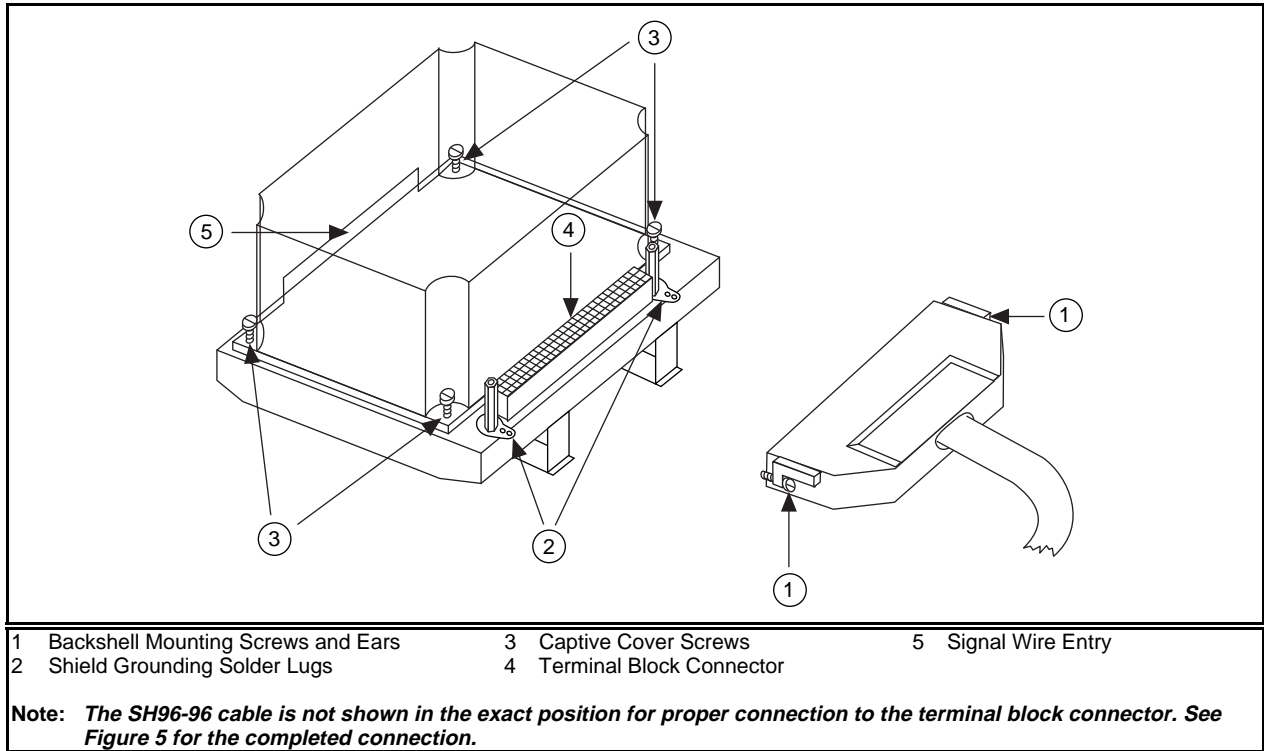

Figure 4. Connecting the SH96-96 Cable to the TBX-1303 Terminal Block
13. Connect the other end of your cable assembly to your TBX-1303 terminal block connector and secure the cable by tightening both backshell mounting screws. See Figure 4.
To connect your field signals to the TBX-1303 for use with the SCXI-1100 or SCXI-1102 modules, refer to Figures 4 and 6 as you perform the following instructions:
2. Connect the signal wires to the screw terminals. Refer to your SCXI module user manual for examples of how to connect to field signals and loads. Notice that the GND terminals are connected to the SCXI module CHASSIS GROUND via the cable, not the shield. In addition, each channel has its own shield terminal (labeled *S* on the board) for connecting your signal shields. Allow your signal wires to exit through the terminal block cover opening (see Figure 4).